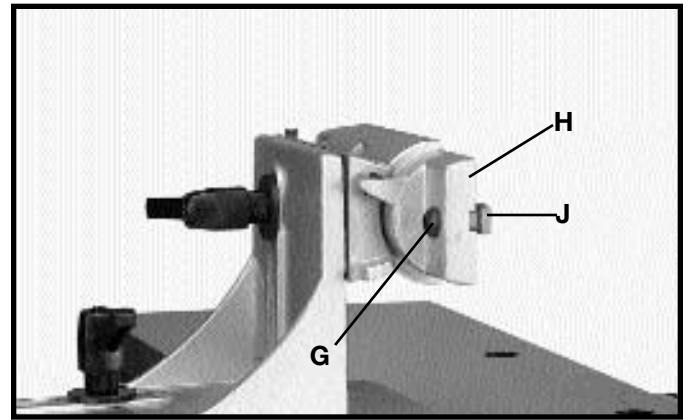

Fig. 9
3. Assemble 5/8" long socket button head screw (G) Fig. 9, to fence tilting bracket (H) and thread T-nut (J) onto threaded end of screw (G) as shown. **DO NOT COMPLETELY TIGHTEN SCREW (G) AT THIS TIME.** Assemble screw and T-nut to opposite end of tilting bracket in the same manner.